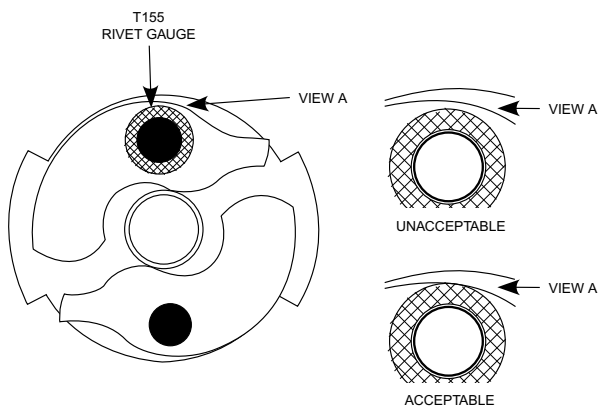

Figure 3.3.4A
7. Install the T155 Rivet Gauge over the rivet head. (See Figure 3.3.4A.)
10. If the edge of the pawl is visible beyond or can be felt to extend beyond the edge of the T155 Rivet Gauge, then replace the coupling. (See Figure 3.3.4A.)